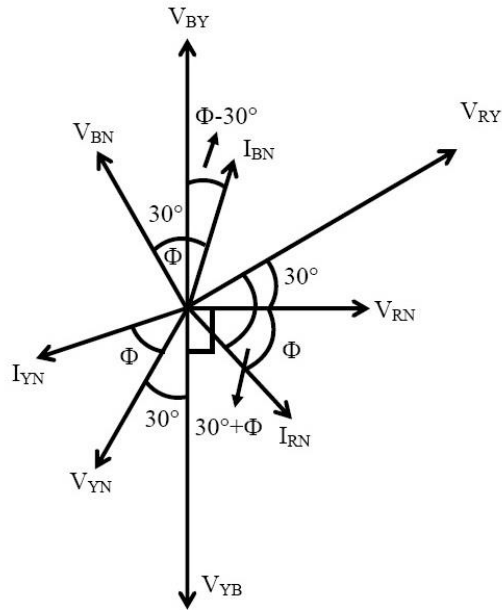

Fig 2: Phasor diagram of three phase balanced star connected circuit
Equation (1) is compared with equation (3) to give the total instantaneous power consumed in the circuit . They are found to be same. The phasor diagram of three phase balanced star connected circuit is shown in figure 2.